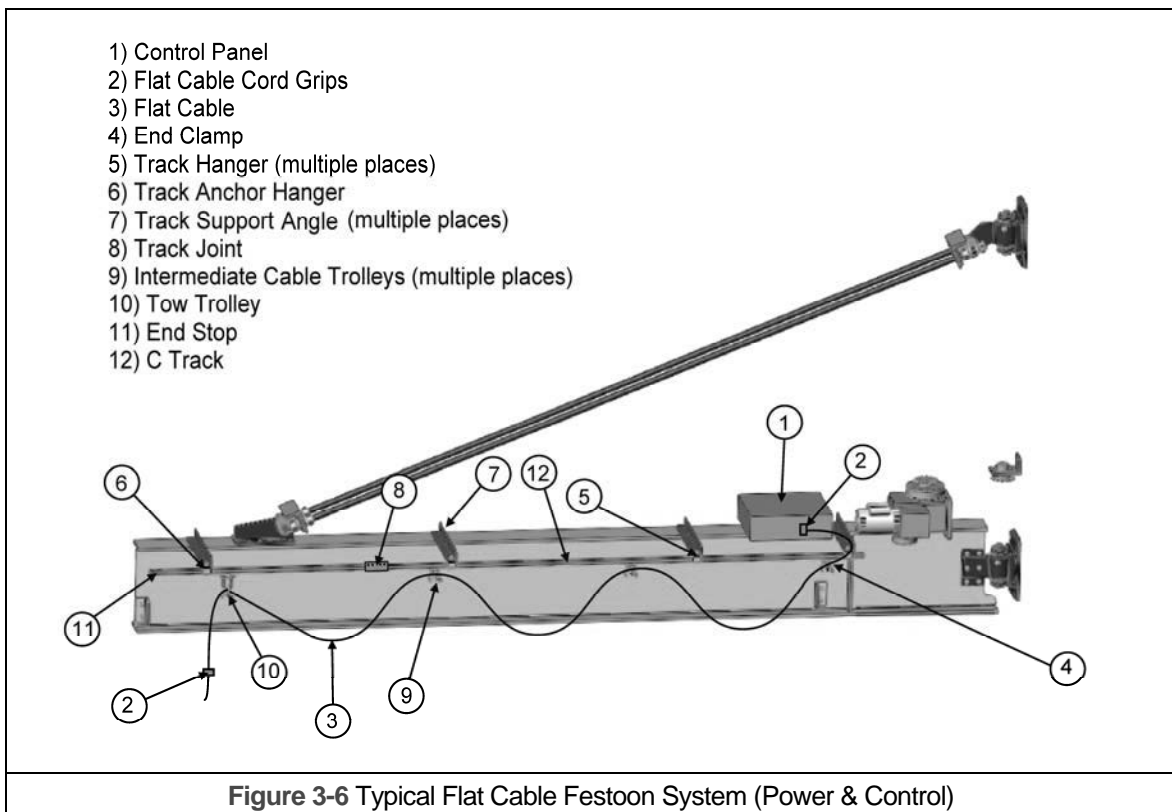

Figure 3-6 Typical Flat Cable Festoon System (Power & Control)
- 3.5.2 Reference **Figure 3-6**.